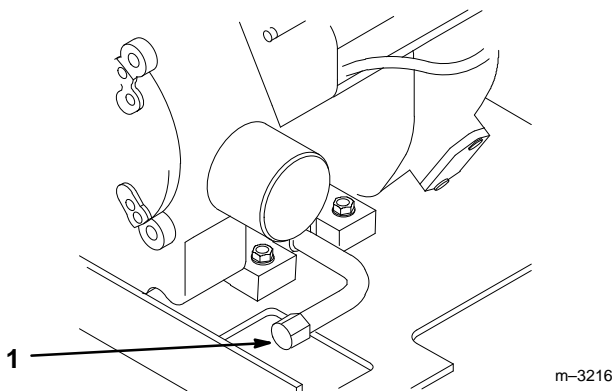

Figure 23
3. Place a pan below the oil drain. Remove the oil drain cap (Fig. 23).